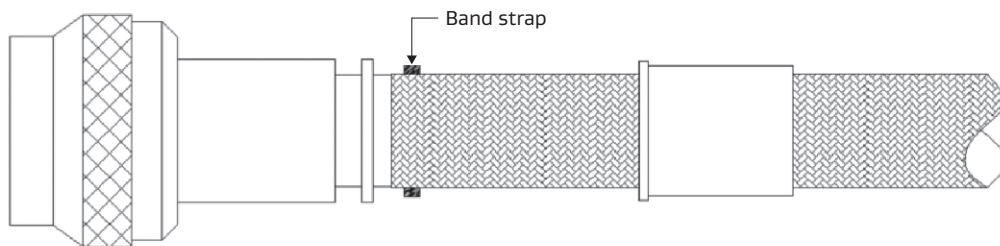

Figure 18: Sliding the band strap
3. Slide the cable protection system over the banding platform and apply band strap (Figure 18).